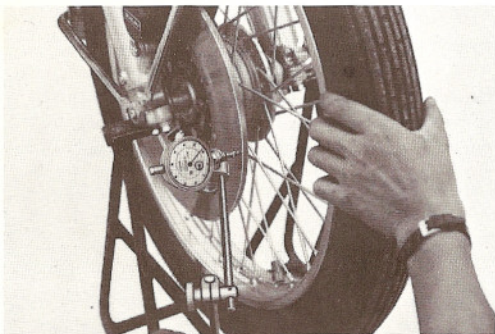

Fig. 4-5-1
- 1) Runout of the brake disc should be not greater than the limit. Measure brake disc runout with a dial indicator as shown in Fig. 4-5-1. If the runout is over the limit on the largest periphery of the disc plate, check whether the cause lies in the front wheel bearing or the brake disc itself, and replace defective parts.